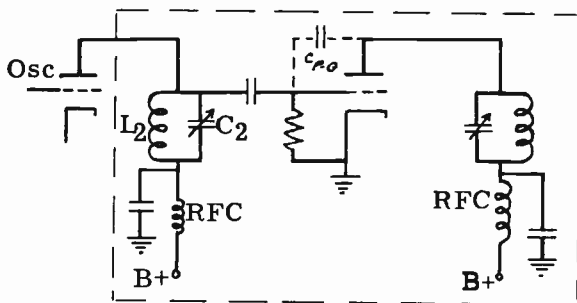

FIG. 13-8. OSCILLATORY CIRCUIT IN AN UNNEUTRALIZED RF AMPLIFIER.
**RF AMPLIFIER OSCILLATION.** Examine the RF amplifier of Fig. 13-8. The tank circuit  $L_2, C_2$  is not only the plate tank circuit of the oscillator, but can also be considered as the grid tank circuit of the RF amplifier. The portion of the schematic inside the dotted line is exactly the same as a TPTG oscillator and will oscillate just like a TPTG oscillator unless certain precautions are taken. An oscillating RF amplifier is very undesirable. An amplifier is only supposed to amplify and not to oscillate. An oscillating amplifier will generate spurious signals which will be radiated along with the desired transmission and cause interference with stations on nearby frequencies.